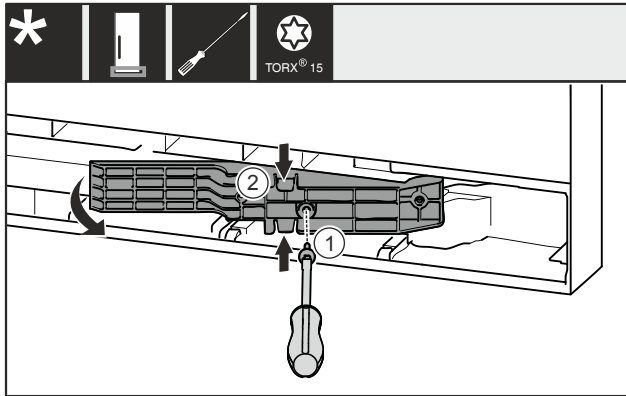

Fig. 12 *
- ▶ Remove the screw Fig. 12 (1)*
- ▶ Gently press the adapter piece Fig. 12 (2) together at the top and bottom and pull it out.*